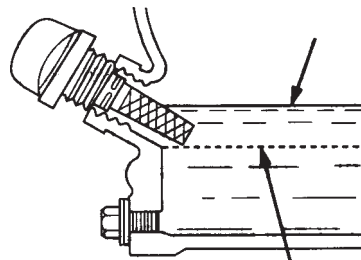

Figure 5. Engine Oil Dipstick (Oil Level)
4. If the oil level is low (Figure 5), fill to the edge of the oil filler hole with the recommended oil type (Table 5). Maximum oil capacity is .63 quarts (.60 liters)